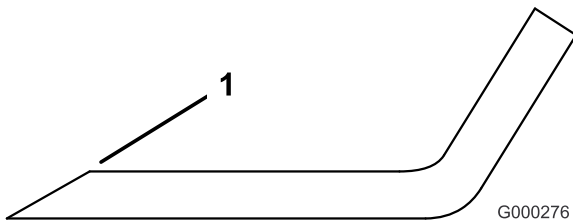

Figure 96
1. Use a file to sharpen the cutting edge at both ends of the blade (Figure 96). Maintain the original angle. The blade retains its balance if the same amount of material is removed from both cutting edges.